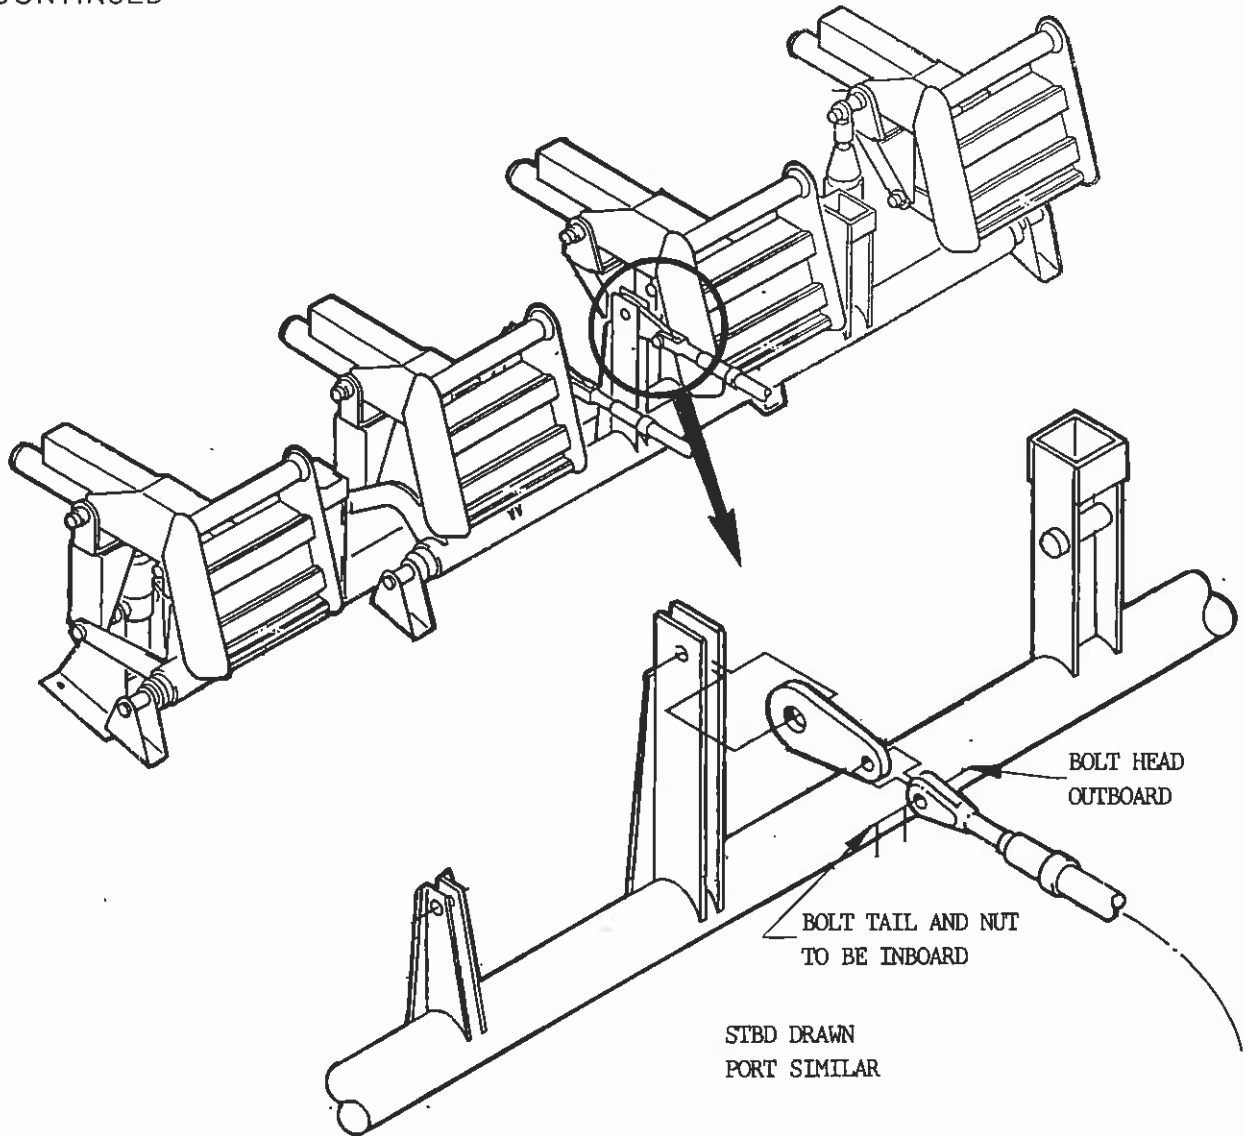

Fig 1
1. Refer to Fig. 1. Check the direction of the head of the bolt. It must be outboard, ie towards the No.3 pedal and a minimum clearance of 8mm from the pedal must be present after taking up any slack or backlash in the rudder pedal system.